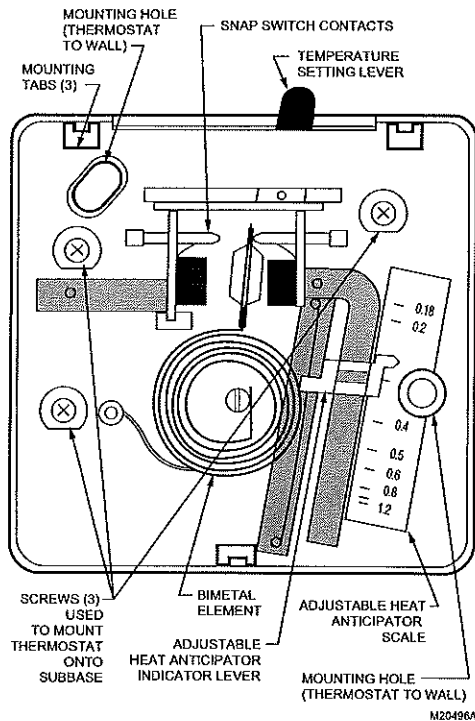

Fig. 1. Internal view of T812 with adjustable heat anticipator.
3. Disconnect thermostat from subbase by unscrewing the three screws under the thermostat cover. See Fig. 1.
9. Mount the thermostat to the thermostat subbase by tightening the three screws. See Fig. 1.
Move the temperature setting lever to the desired setpoint on the thermostat scaleplate, see Fig. 1, to control the temperature to desired point. (On positive off models, the control circuit is broken when the lever is moved to the extreme lowest setting of the temperature scale.)
Models with an adjustable heat anticipator should be adjusted to match the current draw of the primary control for optimum thermostat performance. To adjust, move the anticipator indicator lever to correspond to the control rating. See Fig. 1.